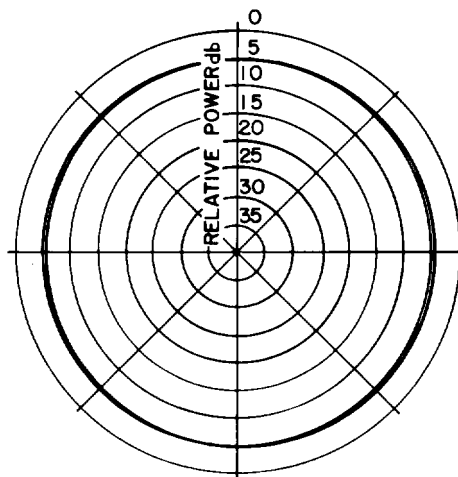

Figure 1-4. Antenna Group OE-254/GRC radiation pattern.
- pattern Nondirectional (fig. 1-4).